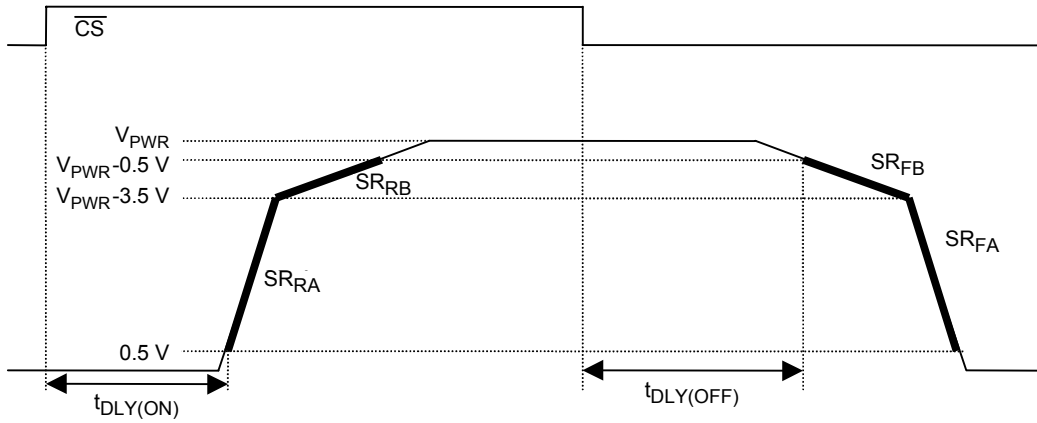

Figure 2. Output Slew Rate and Time Delays
23. Rise and Fall Slew Rates A measured across a $5.0\ \Omega$ resistive load at high-side output = 0.5 V to $V_{PWR}-3.5\text{ V}$ (see Figure 2, page 14). These parameters are guaranteed by process monitoring.
24. Rise and Fall Slew Rates B measured across a $5.0\ \Omega$ resistive load at high-side output = 0.5 V to $V_{PWR}-3.5\text{ V}$ (see Figure 2). These parameters are guaranteed by process monitoring.